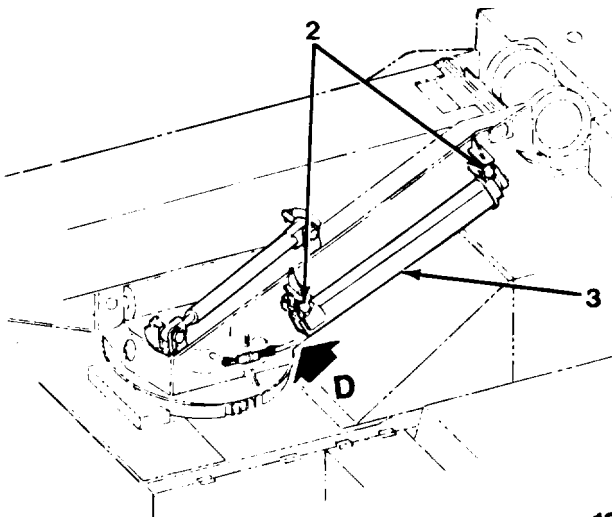

Figure 5-4. *Storage Location D*
- a. Remove two pins (2) and mast (3) from storage location D (Figure 5-4) on left side of upperstructure. Store two pins (2) in tool box for future use.